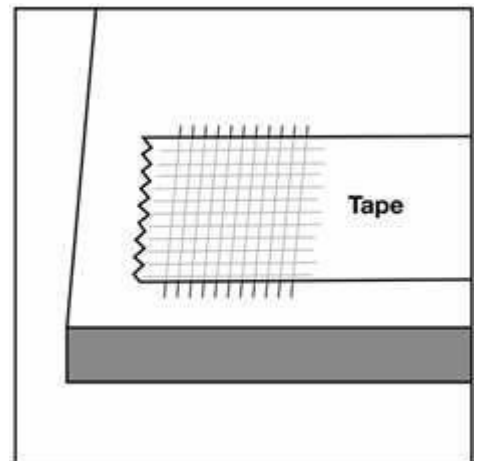

Figure 4e
3. Pressing firmly, apply a $\frac{1}{2}$ "-wide strip of strong tape (i.e., Scotch™ brand) across the scored area (Figure 4e).